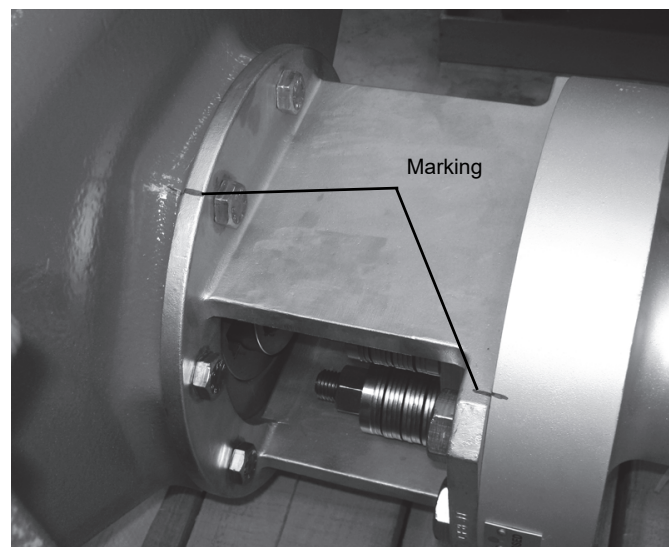

Fig. 10 Before detaching the actuator, tag its position to the shaft and the disc on the bracket.
- When detaching the actuator to demount the valve, the actuator should be tagged to the bracket and the valve body with a waterproof marker (Figure 10). It makes it easy to find the correct position of the actuator at reassembly and the actuator cannot cause a malfunction.